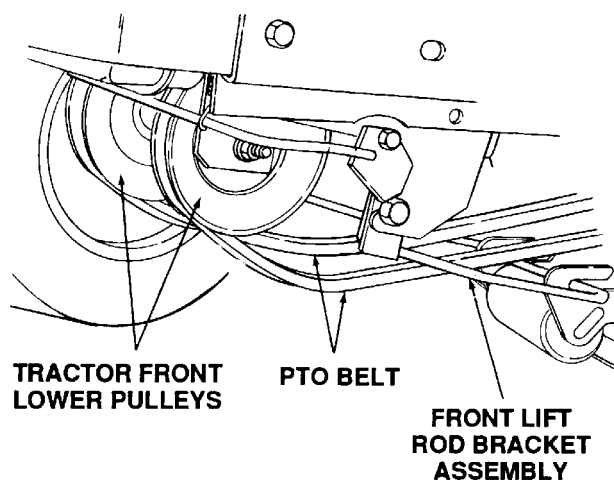

Figure 46
6. Pass the PTO belt downward, inside the tractor frame, until the belt is below the two tractor front lower pulleys and pull the belt clear of the tractor (Refer to Figure 46).